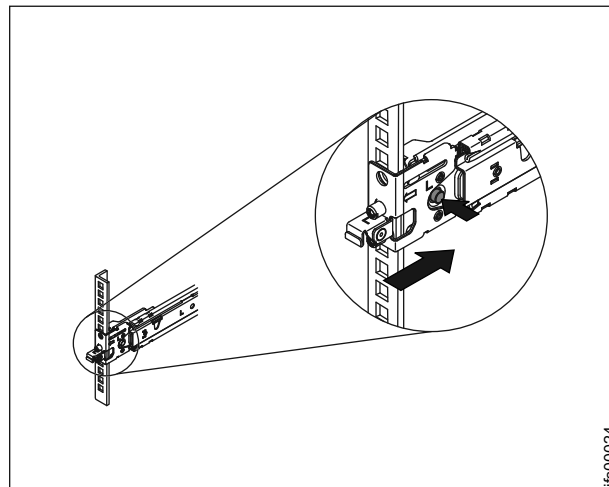

Figure 41. Install the front end of the slide rails
7. Press the blue button to release the bracket. Push the front latch in all the way. Make sure the latch is fully engaged. Refer to Figure 41.